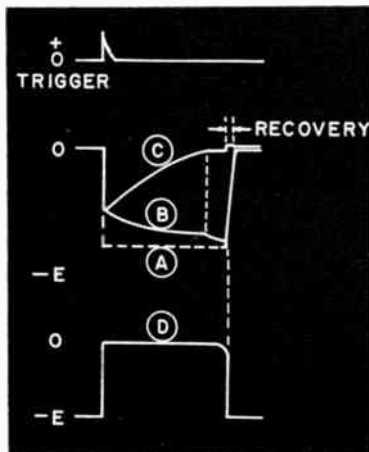

Figure 2. Representative waveforms of the circuit given in Figure 1.
The timing capacitor now begins to charge through R_3 and R_4 ; point (B) falls towards -15 volts and point (C) rises towards $+15$ volts as may be seen in Figure 2. When point (C) passes ground potential D_2 becomes forward-biased and after a short period completely replaces the base current of Q_2 which had been flowing through R_5 . With Q_2 cut OFF point (D) drops towards -15 volts causing Q_1 to be turned ON. As point (A) rises towards ground D_1 becomes forward-biased causing point (B) to rise as well. Because of the capacitive coupling, point (C) rises along with (B) producing, through D_2 , an even more rapid decrease in the base current, and hence collector current, of Q_2 . This regenerative action produces a rapid reset of the circuit. As point (C) is driven above ground diode D_3 becomes forward biased permitting the timing capacitor to be discharged to ground. It may be seen that the maximum discharge current of the capacitor is limited only by the maximum permissible collector current of Q_1 and the forward resistances of Diodes D_1 and D_3 . Hence very rapid recovery is realized with the new arrangement.